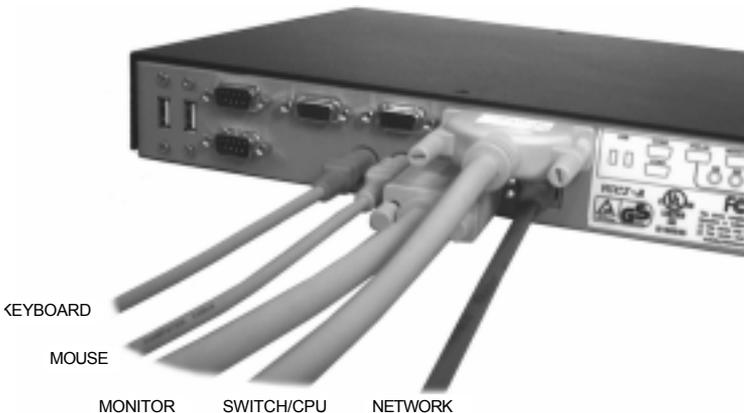
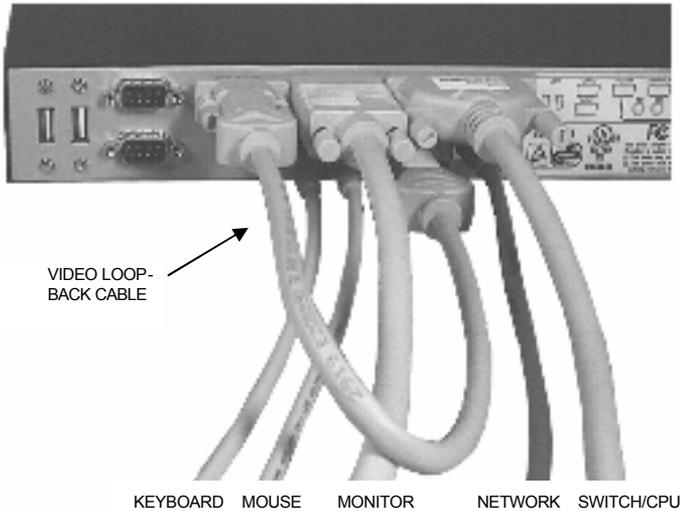

Figure 5.1 Model ACR9000A cabling (temporary local access for configuration, keyboard, monitor, and mouse can be removed during normal operation).
Figure 5.1.1 Model ACR9000A cabling for permanent local KVM access connection (Video loop-back cable installed)
To connect the unit for initial configuration and no local KVM access, connect the cables as shown in Figure 5.1, or with local KVM access as shown in Figure 5.1.1.
4. Connect a monitor to the unit as shown in Figure 5.1 (Temporary KVM access) or as shown in Figure 5.1.1 (Permanent KVM access, must also connect the HD15M to HD15M video loop-back cable)